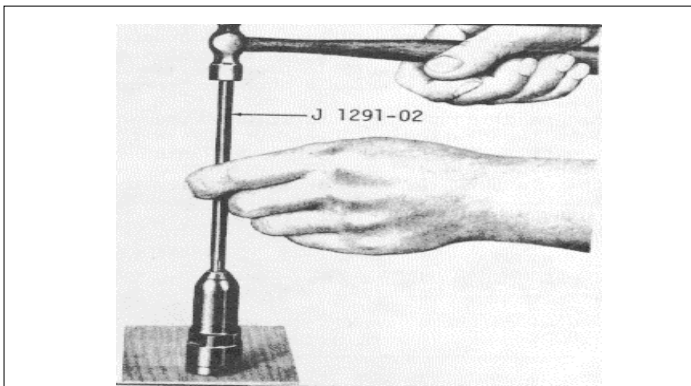

Fig. 26
- (5) Lift the injector nut straight up, being careful not to dislodge the spray tip and valve parts. Remove the spray tip and valve parts from the bushing and place them in a clean receptacle until ready for assembly. When an injector has been in use for some time, the spray tip, even though clean on the outside, may not be pushed readily from the nut with the fingers. In this event, support the nut on a wood block and drive the tip down through the nut, using tool J 1291-02 as shown in Fig. 26.